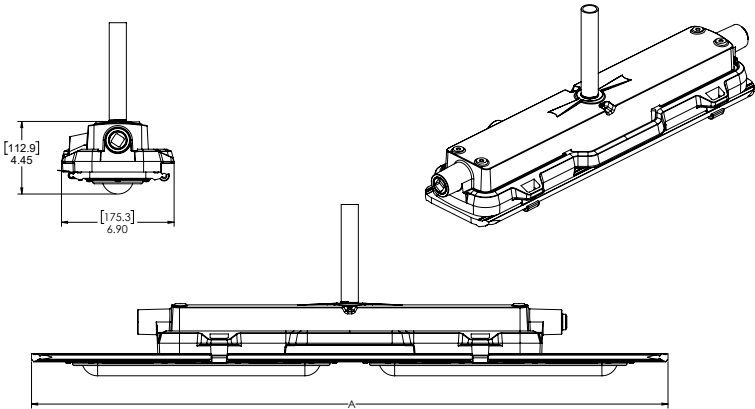
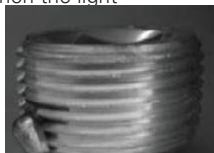

Figure 6. Pendant Mount Detail View
Figure 13. NPT Fitting
- 2. For Pendant Mount the conduit should be located in line with the 3/4" NPT entry on the rear of the luminaire driver housing (see Figure 6).
- 3. Luminaire is ready for mounting. It is strongly suggested to use two (2) qualified tradespeople to proceed with the final mounting of the luminaire. This is recommended to avoid any personal injury or damage to the luminaire.
- 4. Verify sufficient quantity of Eaton's STL thread lubricant is on conduit entries and that all unused conduit entries on the end caps are closed with lubricated plugs (see Figure 13).
1. Verify sufficient quantity of Eaton's STL thread lubricant is on conduit entries and that all unused conduit entries on the end caps are closed with lubricated plugs (see Figure 13).
2. Verify conduit is installed to at least five (5) full threads into the end cap conduit entries. Recommend approximately 1/8" bead quantity of Eaton's STL thread lubricant on conduit entries.